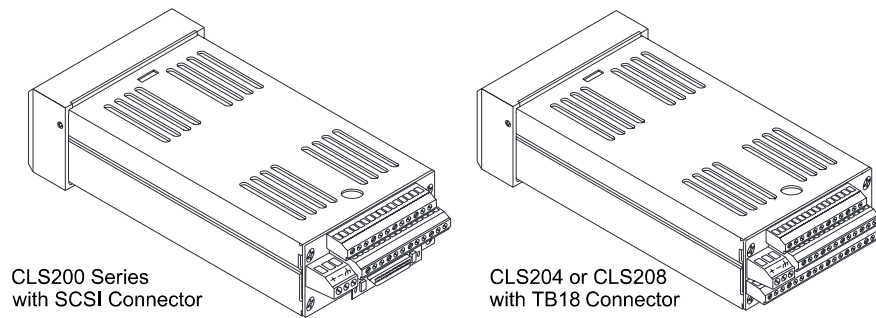

Figure 1.3 CLS200 Rear Views
- A 50-pin SCSI cable connects the digital inputs and outputs to the 50-terminal block (TB50). The CLS204 and CLS208 are available with an 18-terminal block (TB18) in place of the SCSI connector, as shown in Figure 1.3.